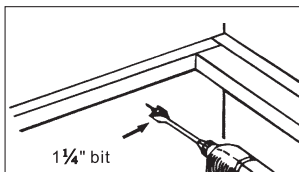

Fig.8
1. After turning off the proper 120 volt circuit at the service entrance, drill out the electrical power line access hole marked on the cabinet bottom or wall. Use a 1 1/4" wood bit. (Fig. 8)